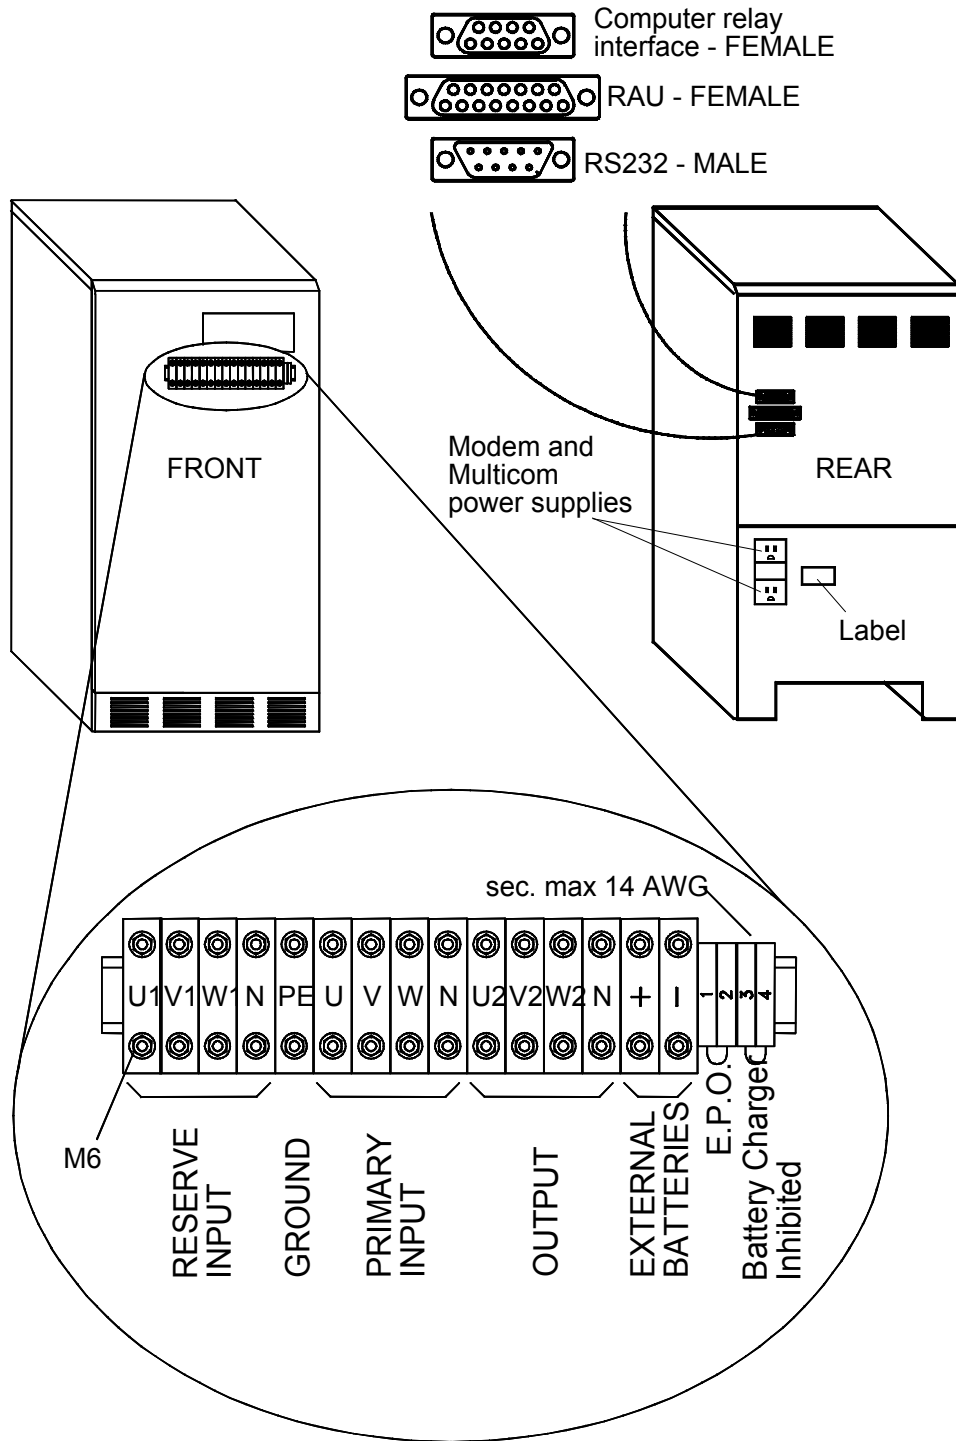

Figure 20 - 24 - 12/18/24kVA: Cable Connections
- c) This exposes the electrical terminal rail, see Figure 20